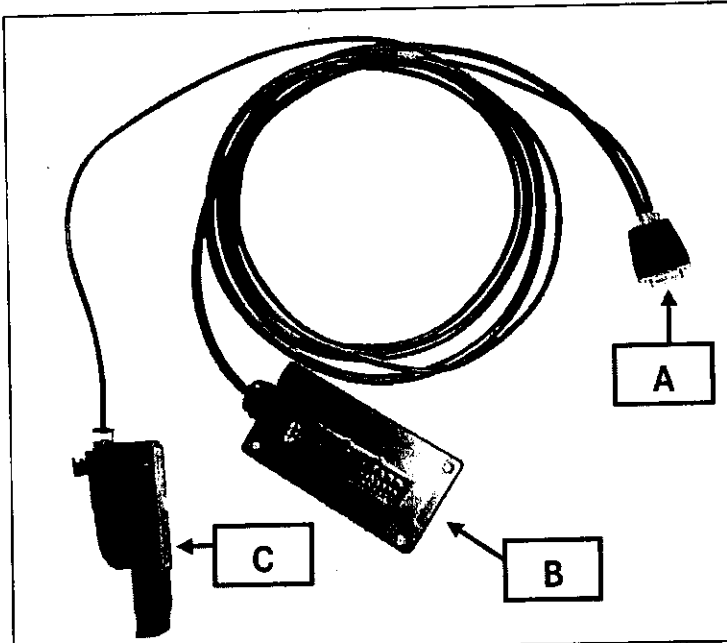
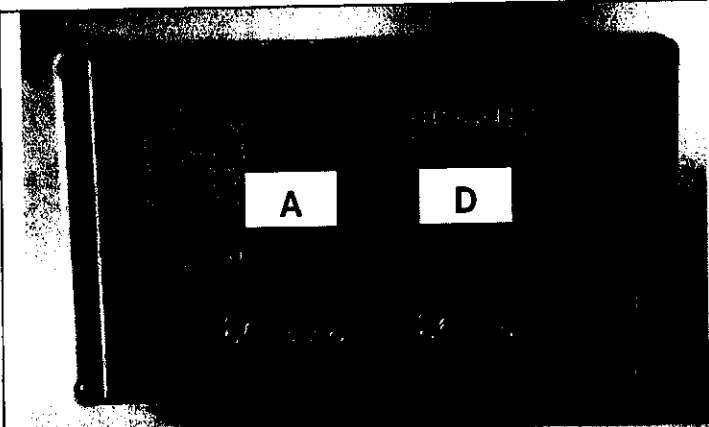

Fig. 1 - Adapter cable (15/47-pin)
Fig. 2 - SBC Module
7. Connect **plug A** of the 15/47-pin adapter cable (Fig. 1) to **socket A** of the SBC module (Fig. 2) and secure **plug A** using manual knurled screws.
9. Connect and lock **plug B** of 15/47-pin adapter cable (Fig. 1) to engine wiring harness plug.
10. Connect and lock **plug C** of 15/47-pin adapter cable (Fig. 1) to **connector strip C** (Fig. 4) of SBC control unit.
To do this, connect either plug of the connecting cable (Fig. 3) to socket D (Fig. 2) of the SBC module and secure using manual knurled screws.